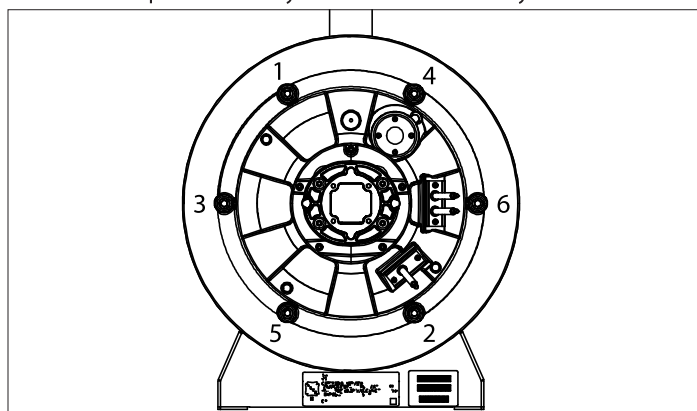

Figure 64 - 400 - 1000 Model Heat Exchanger Detail - Burner Door Torque Sequence
- c. Reinstall and tighten the bolts to the burner plate using staggered tightening sequence. See Figure 64 and Table 35.